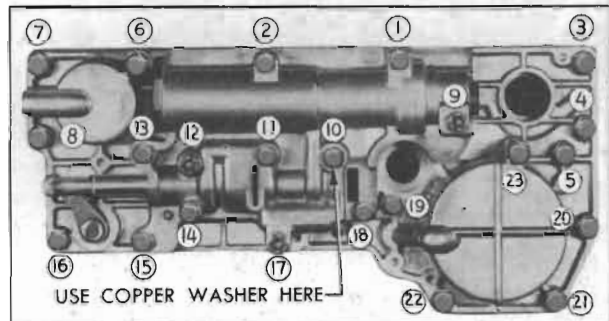

Figure 4-143—Valve and Servo Body Bolt Tightening Sequence
4. Install various length bolts with lockwashers according to depth of holes through valve and servo bodies. Use copper washer on center bolt adjacent to suction pipe opening. See figure 4-143.
5. Tighten all bolts to 5 ft. lbs. torque in the numerical sequence shown in figure 4-143. Repeating the same sequence, tighten all $\frac{1}{4}$ " bolts and nuts to 11-15 ft. lbs. torque and all $\frac{5}{16}$ " bolts to 15-20 ft. lbs. While tightening bolts and nuts adjacent to the shift control valve, operate the valve to make certain that it is not binding—it may be necessary to adjust some bolts to low limit on torque to prevent valve binding.